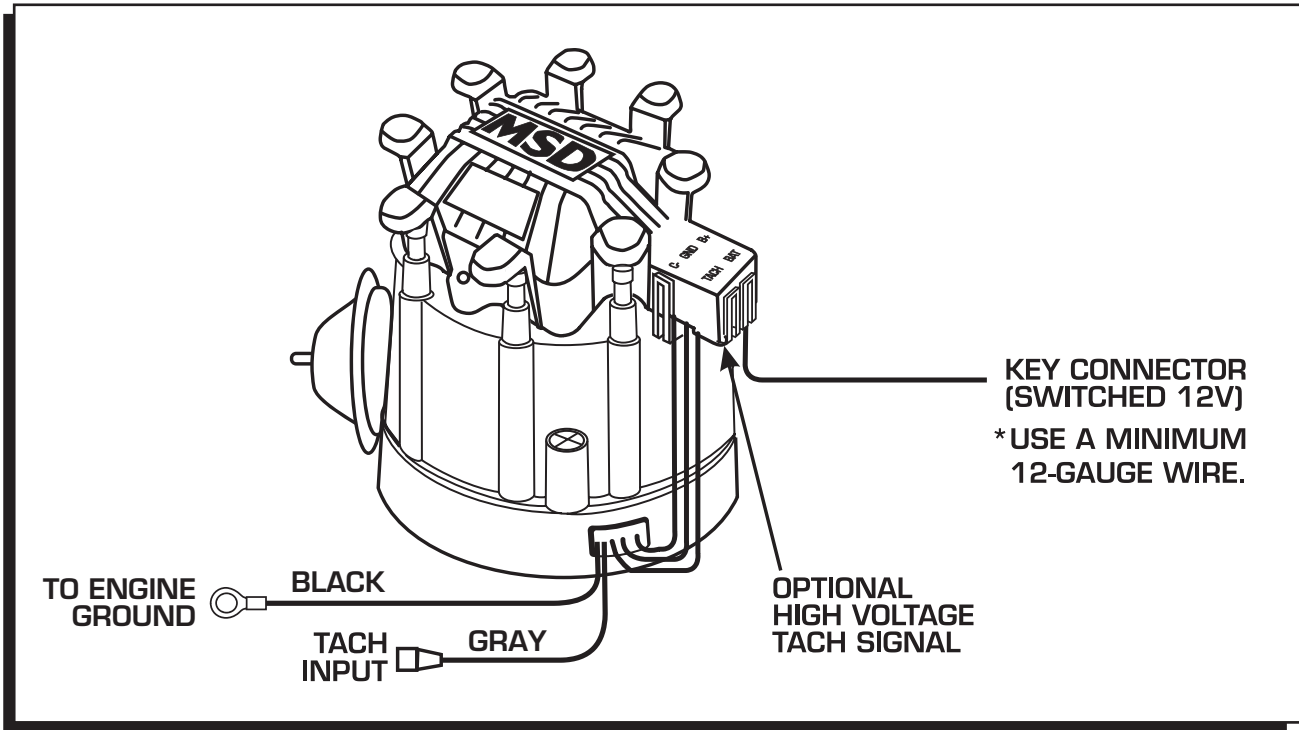

Figure 10 General Wire Installation.
11. Connect a switched 14-gauge wire from a 12 volt source to the B+ terminal of the Distributor Cap (Figure 10).